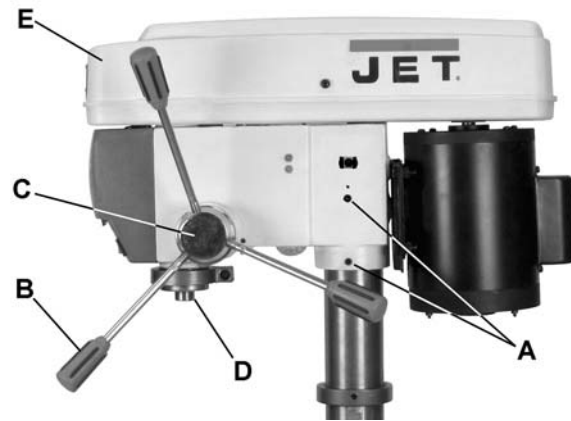

Figure 3
1. With the aid of a second person, carefully lift the *head* onto the *column top* (Figure 3).
3. Tighten two *set screws* (A, Fig. 3) with a 5mm wrench until they are snug.
Referring to Figure 3:
1. Adjust the position of the table to approximately seven inches below the *spindle assembly* (D, Fig. 3) and lock in place.